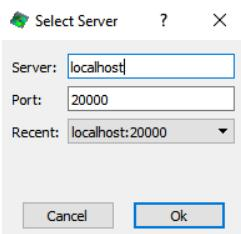

Figure 2: Real-Time server prompt
**NOTE:** If you are streaming Real-Time to a remote PC, you will need to use the “Start Server Only” or “Start Multiple Servers” options in the Real-Time drop-down menu. Running the Real-Time 3D Analysis option in VIC-3D will prompt you to select the IP address of the acquisition PC, as illustrated in Figure 2.